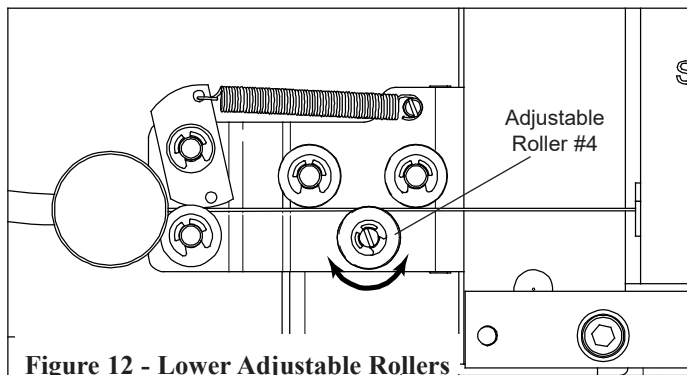

Figure 12 - Lower Adjustable Rollers
2. Continue between the Tension Pawl and its roller and through two sets of wire straightener rollers (Fig. 8). It may be necessary to turn the Adjustable Straightener Rollers to the full open position to make threading easier. (Figs. 12 & 13)
3. If curving up, adjust the Lower Straightener turning the Roller (#4) counter-clockwise until wire is emerging straight (Fig 12).